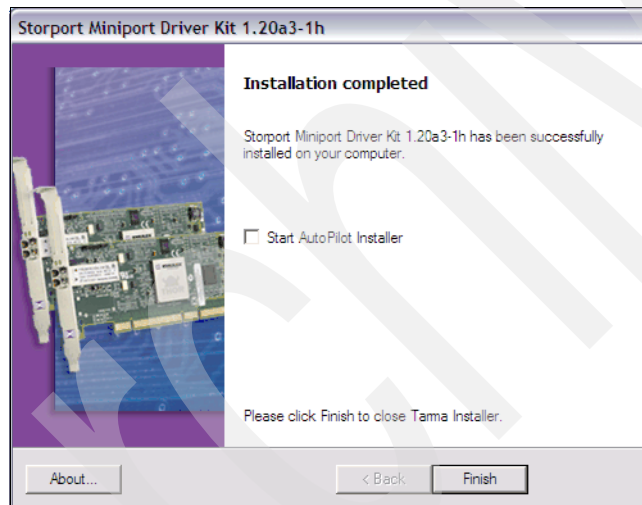
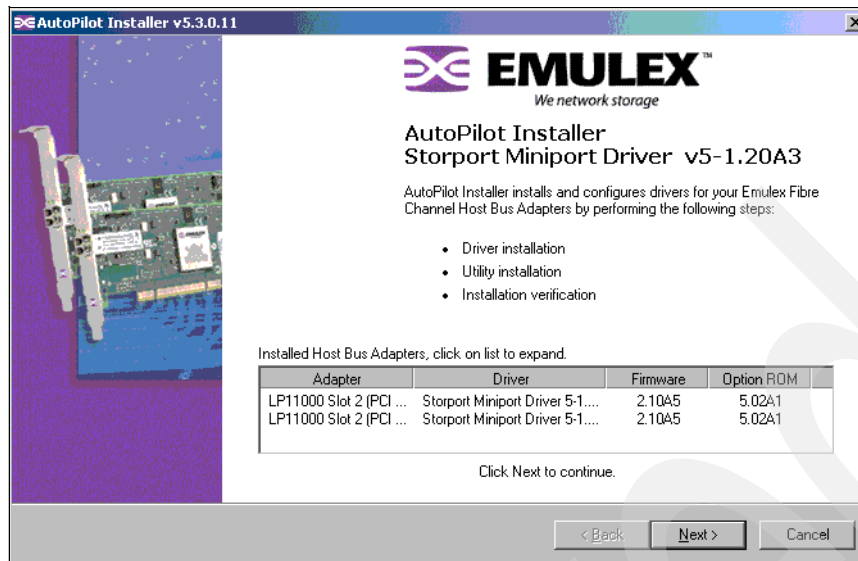

Figure 24-24 Extract Emulex Driver - Finish
Figure 24-32 Emulex Auto Pilot Installer
4. When the installation is complete, (Figure 24-24), deselect **Start Auto Pilot Installer** and click **Finish**.
Follow the same steps as before, but this time on the final window (Figure 24-24 on page 598) make sure to check **Start Auto Pilot Installer**. The Emulex Auto Pilot Installer will start (Figure 24-32 on page 603).